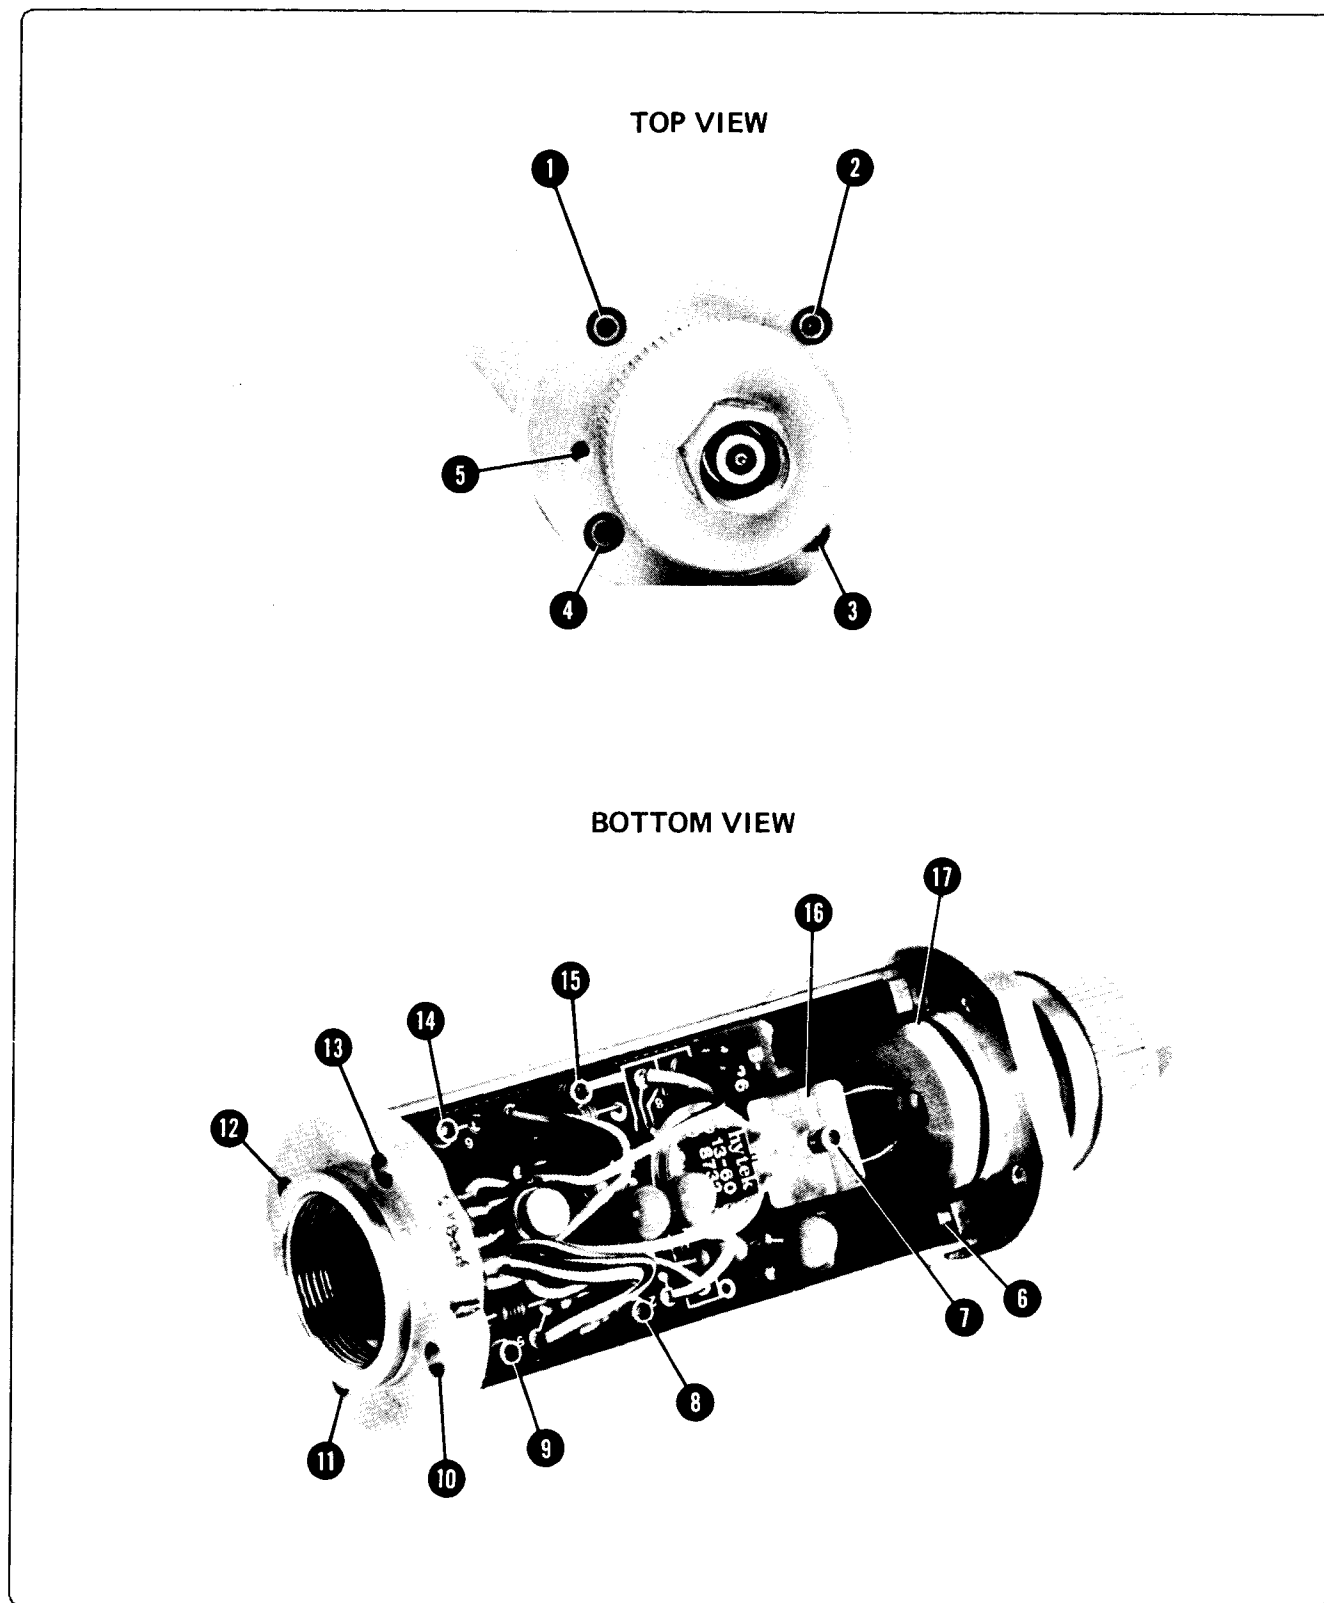

Figure 7. Power Sensor Hardware Locations
3. Position the Power Sensor as shown in Figure 7, top view so that the small hole (5) is on the left side of the rf input connector. Remove allen cap screws (1), (2), (10), and (13). Loosen screws (11), and (12). Remove the upper chassis from the Power Sensor.
4. Remove clamp screw (7) together with screw spring and clamp (16). This will free the two gold wires that come from the bulkhead assembly.
5. Remove cap screws (6), (3), and (4).
7. If A2 Input Amplifier Assembly must be removed then remove cap screws (8), (9), (11), (12), (14), and (15).
1. Set printed circuit board and connector into place as shown in Figure 7, bottom view.
2. Insert cap screw (8), (9), (11), (12), (14), and (15) but do not tighten.
3. Center A2 circuit board so there is an equal air gap between each side and chassis. Tighten cap screws (8), (9), (14), and (15).